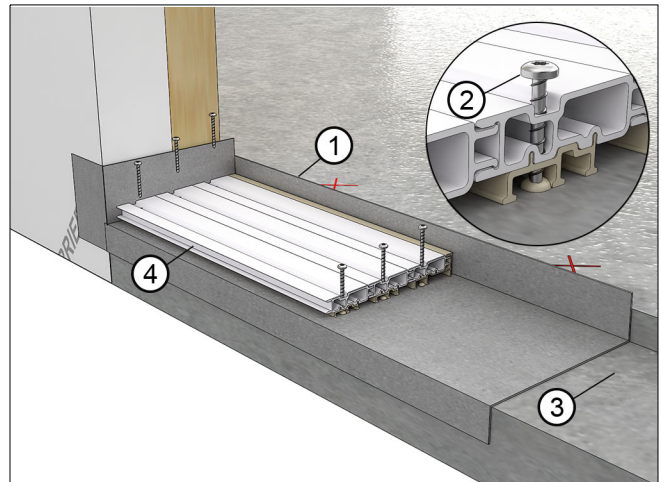

Figure 9 Install sill slope
5. Set the sill slope in the slot and fasten into the rough opening sill with a minimum #8 x 2 1/2" (64) pan head screw appropriate for your structure. The screw must penetrate at least 1 1/4" (32) into the subsill. See Figure 9.